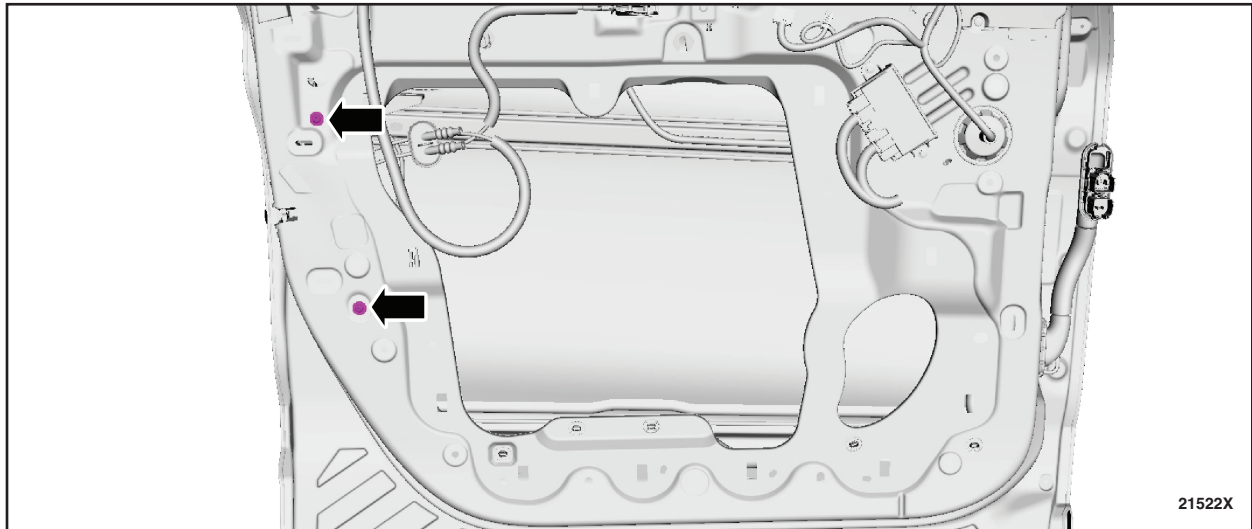

**FIGURE 33**
19. Remove the screw from the exterior front door handle reinforcement. See Figure 33.